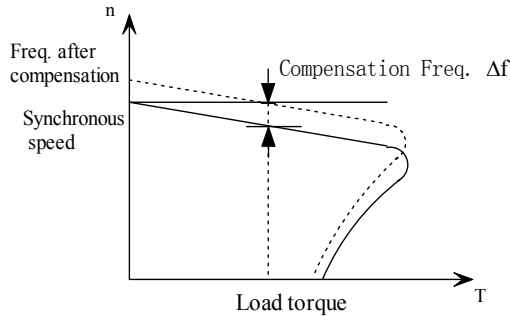

Fig. 5-9-1 Auto slip compensation diagram
- ◆ The motor's slip changes with the load torque, which results in the variance of motor speed. The inverter output frequency can be adjusted automatically through slip compensation according to the load torque. Therefore, the electrical characteristics of the mechanical hardness are improved. As shown in Fig. 5-9-1.